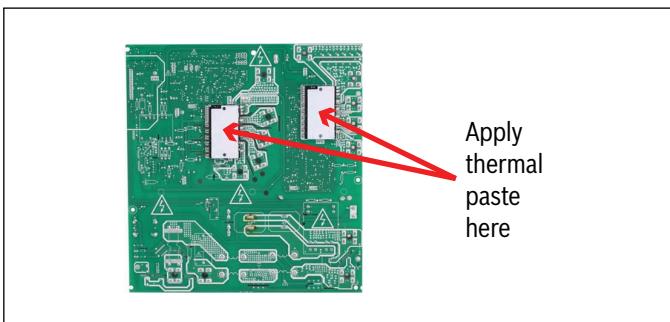

Figure 3
7. Put thermal paste on 2 locations (Figure 3). The entire contact surface must be covered.